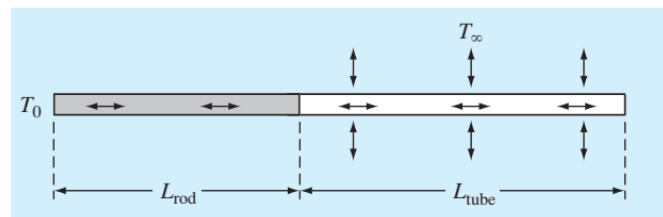

FIGURE P24.22
24.22 As in Fig. P24.22, an insulated metal rod has a fixed temperature (T_0) boundary condition at its left end. On its right end, it is joined to a thin-walled tube filled with water through which heat is conducted. The tube is insulated at its right end and convects heat with the surrounding fixed-temperature air (T_∞). The convective heat flux at a location x along the tube (W/m²) is represented by